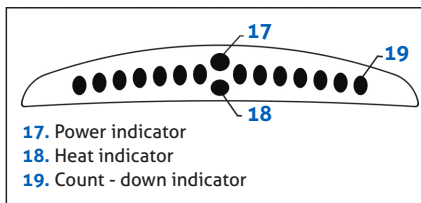

Figure 5
3. LCD screen displays (see fig.5)